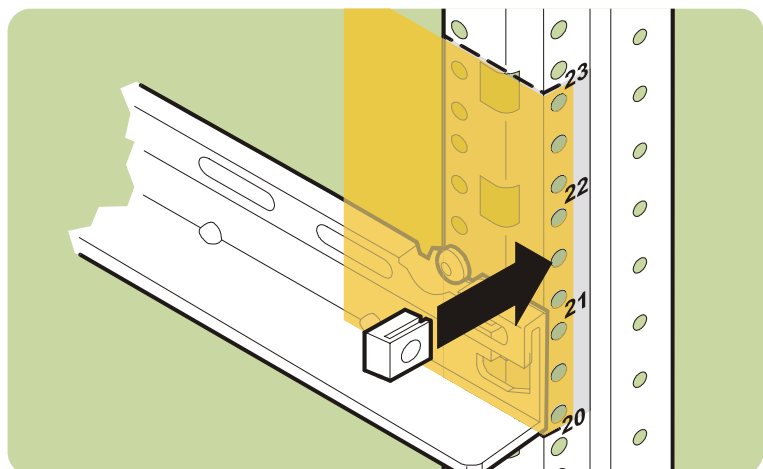

Fig. 15. Installing enclosure clip nuts in HP Rack System/E
7. Install one clip nut each on the right and left front columns (see Fig. 15). (Use the black arrow on the template as a guide.)